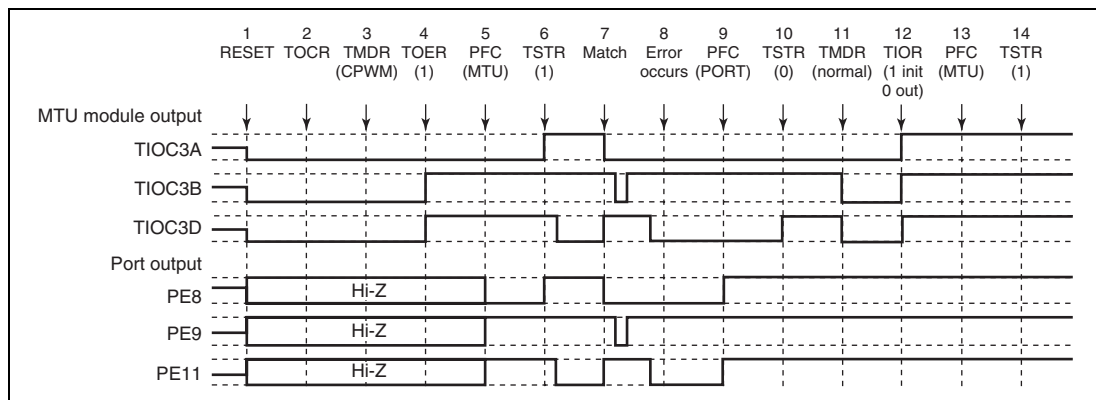

**Figure 11.105 Error Occurrence in Complementary PWM Mode, Recovery in Normal Mode**
**Operation is Restarted in Normal Mode:** Figure 11.105 shows an explanatory diagram of the case where an error occurs in complementary PWM mode and operation is restarted in normal mode after re-setting.
1 to 10 are the same as in figure 11.105.